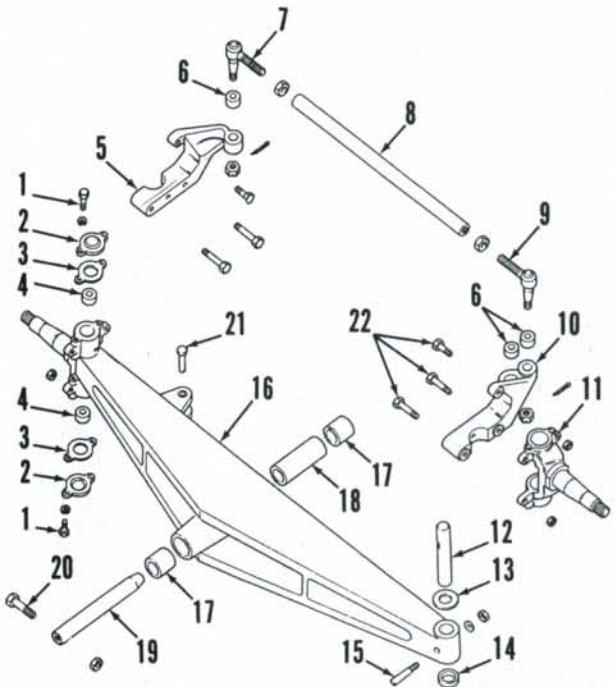

Fig. 6—Exploded view of heavy duty (cast) nonadjustable front axle used on some tractors.
3. R&R SPINDLES. To remove either spindle (11—Fig. 6), block rear wheels securely and apply park brake. Raise front of tractor and install jack stand under axle main member (16). Unbolt and remove front wheel and hub.
5. REMOVE AND REINSTALL. To remove axle main member (16—Fig. 6), block rear wheels securely and apply park brake. If so equipped, remove front weights and weight bracket. Unbolt and remove front cover. Raise front of tractor and support with stands under side rails or oil pan. Remove front wheels. Identify and disconnect steering cylinder hoses at cylinder. Cap or plug all openings immediately to pre-